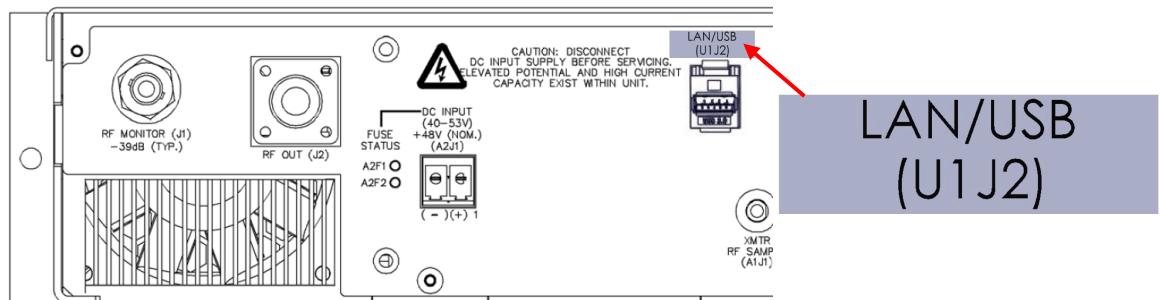

Figure 6: LAN/USB Label Location on Exciter Rear Panel
- (a) Obtain the 'LAN/USB (U1J2)' label (Nautel Part # 219-5019) from the Field Modification kit. Peel off the label's backing and apply the label to the rear of the exciter as shown in Figure 6.